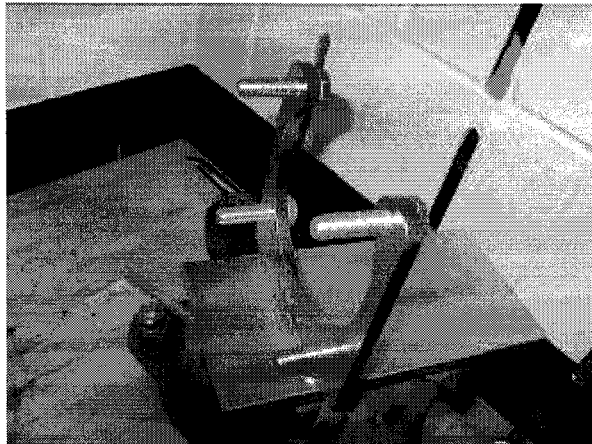

Figure 2 – High Pressure Fuel Pump Holding Fixture
6. Mount the high pressure fuel pump holding fixture P/N: W470589014000 in a bench vise. Remove the gear locking tooth and four bolts from the tool. Install the bolts backwards into the pump holding fixture. See Figure 2.